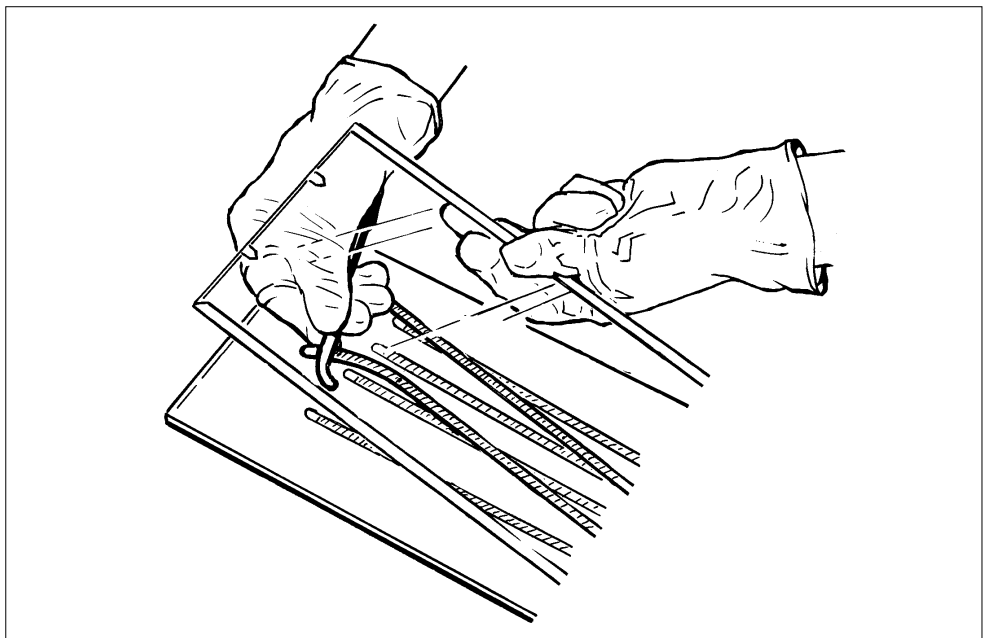

Fig. 11.
- Use a pair of clean forceps to place the strips on the plain glass plate gel side up (Fig. 11).